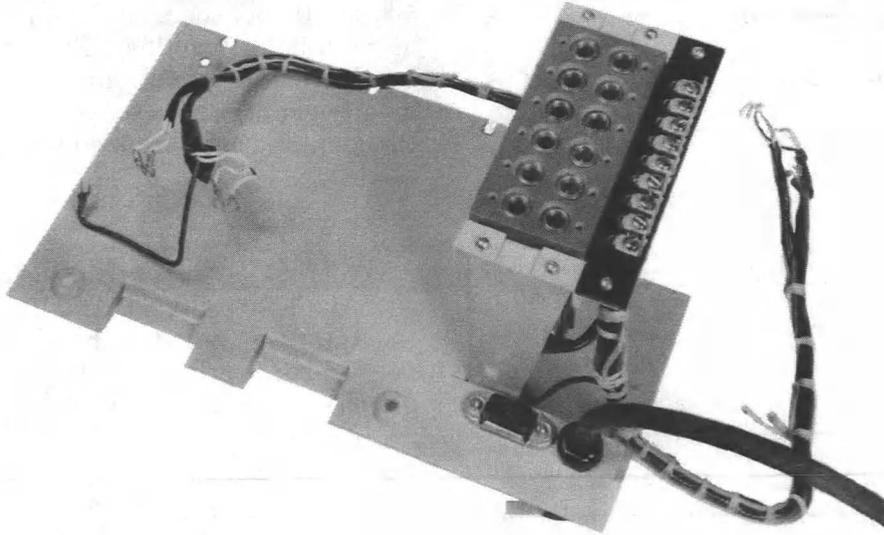

Fig. 1 - KS-16831, L6 Bracket Assembly
1.10 The KS-16831, L6 Bracket Assembly is designed for those applications where it is desired to provide a jack field, terminal strip, wiring harness and space to mount one KS-16816, L2 Equalizer and one KS-16831, L4 Power Supply in a List 5 Carrying Case with one KS-16831, L1 Amplifier. Fig. 1 shows a preproduction photograph of the bracket assembly.